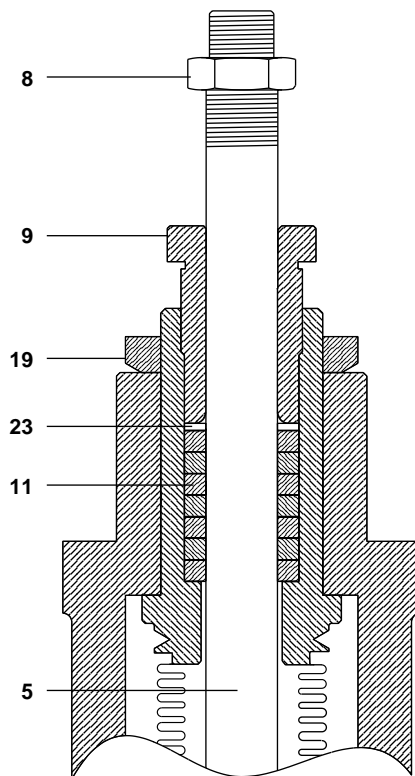

Fig. 9
4.3.1 Procedure for renewing the bellows stem seals (Refer to Figure 9):